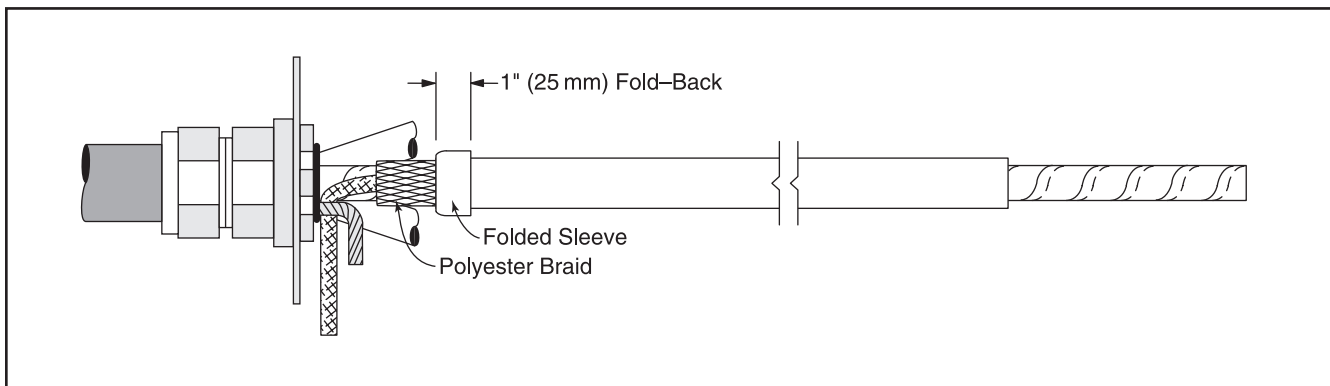

Figure 8
3.7 Fold outer silicone tubing back on itself for 1" (25 mm) and trim off exposed polyester braid (*Figure 8*).